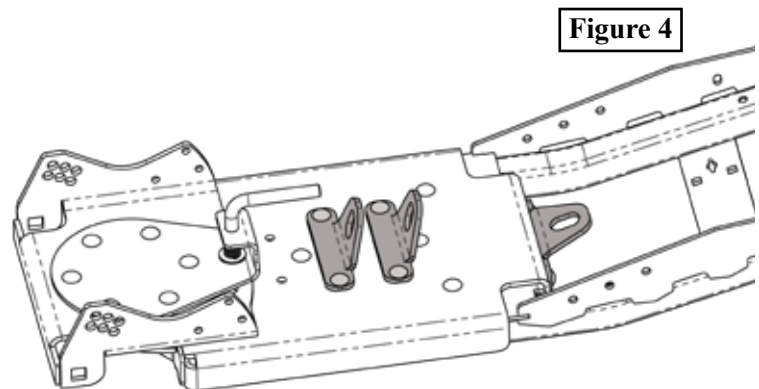

Figure 4
5. The lift hook can be relocated if it gives a better lift angle from your machine, 3 options are shown in **Figure 4**.
“Figure 4 Blade Install”